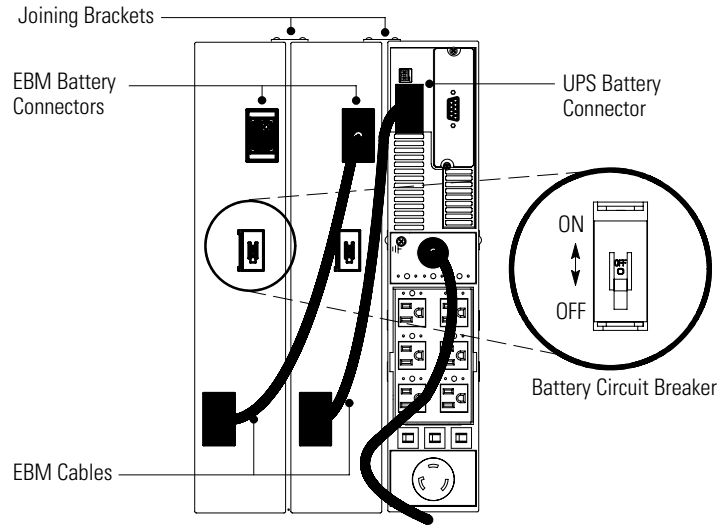

Figure 35. EBM Connections
1. Switch all battery circuit breakers to the OFF (O) position (see Figure 35).
9. Plug the EBM cable(s) into the battery connector(s) as shown in Figure 35.